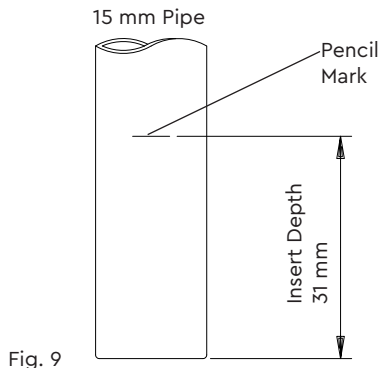

Fig. 9
Ensure the pipe is free from all score marks and deformities in the area of the insertion depth (Fig. 9) and cut the pipe square, removing all burrs and sharp edges to prevent damage to the sealing 'O'-ring.
2. Prior to inserting pipe into fitting, mark the insert depth on the wall of the pipe with a soft pencil at a distance of 31 mm from the end to be inserted (Fig. 9).